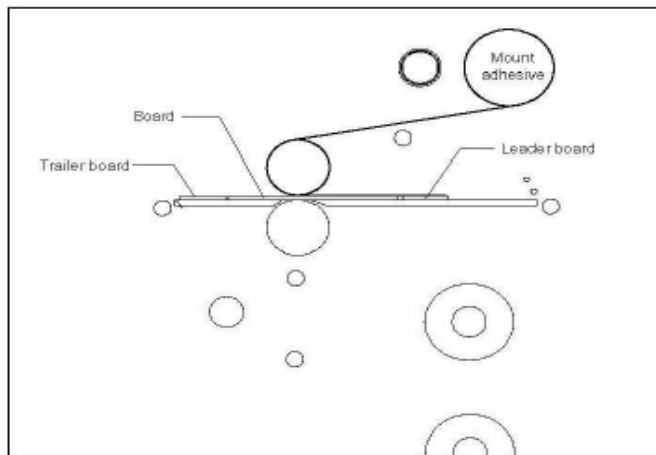

Fig. 31
TIPS FOR PRE-COATING BOARDS (Figure 31)
1. Load the laminator as illustrated in Figure 31.